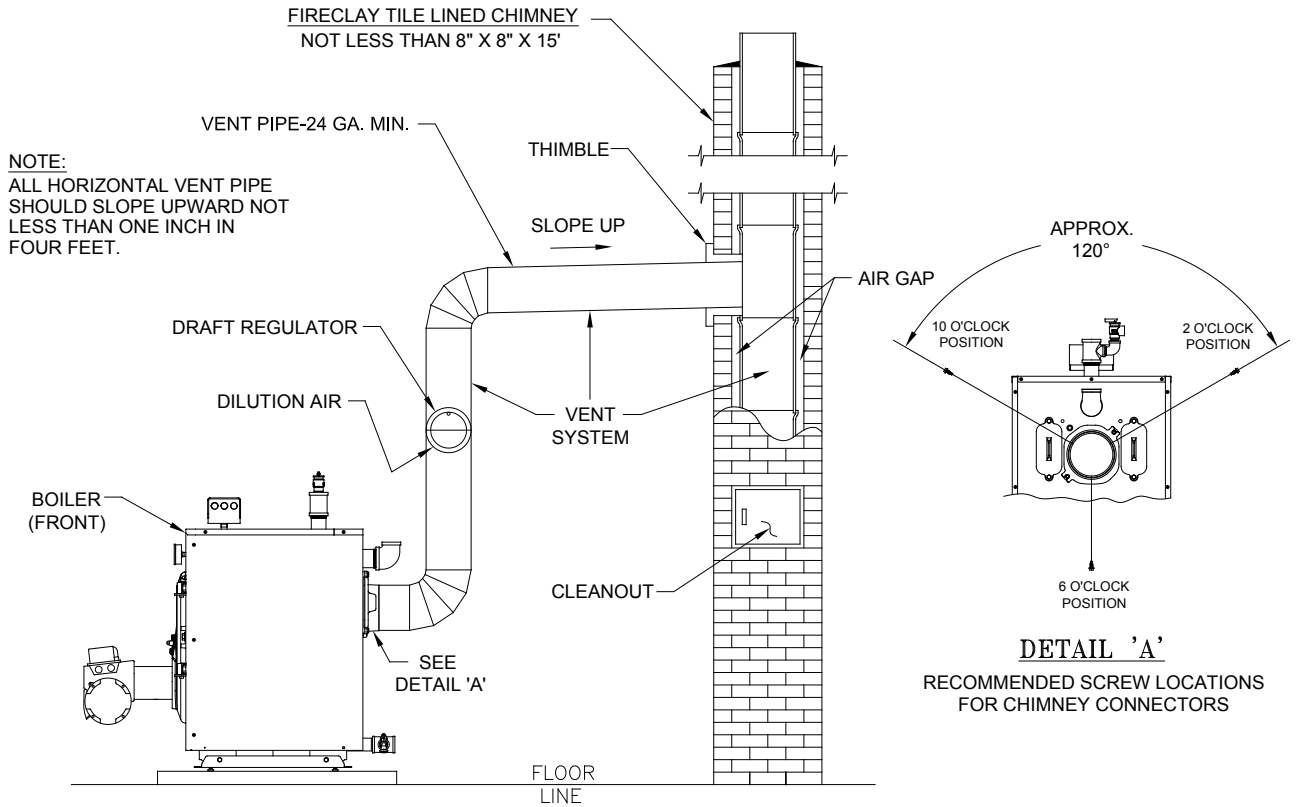

Figure 6-1: Recommended Vent Pipe Arrangement and Chimney Requirements
5. Draft Regulator – a draft regulator (supplied with boiler) must be used with this appliance. Refer to Figures 6-1 and 6-2.